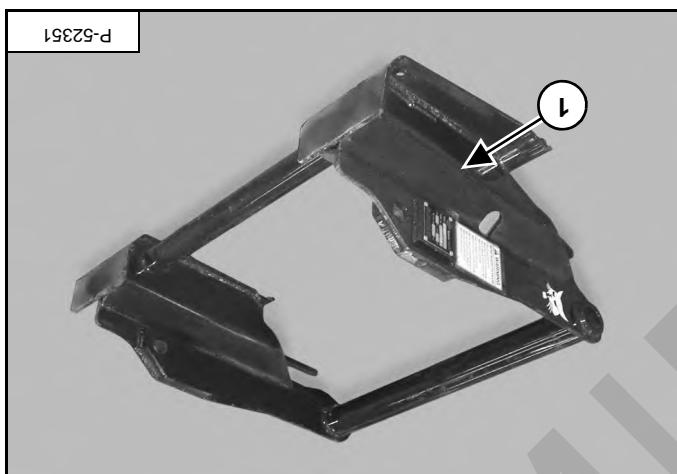

Figure 23
Inspect the adapter frame (item 1) [Figure 23] and all welds on the attachment mount for wear and damage each time the attachment is removed from the machine.